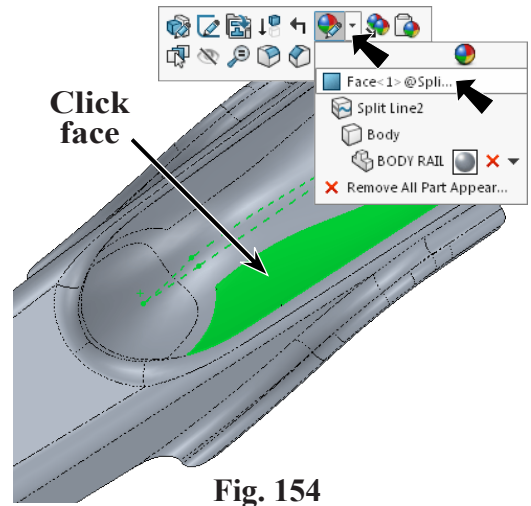

Fig. 154
Step 1. Rotate view slightly to view **all three Split Line faces**, hold down middle mouse button (wheel) and drag to rotate view, **Fig. 154**.
Step 2. Click a Split Line face, click **Appearance Callout**  on the context toolbar and click **Face 1 Split...** , **Fig. 154**.